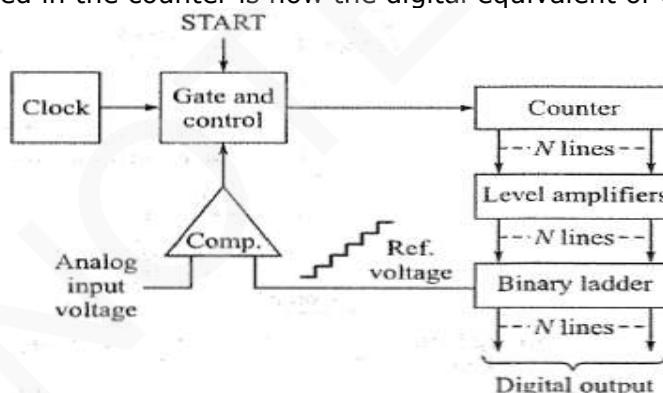

Figure 12.23 Counter type ADC
- 1) First, the counter is reset to all 0s (Figure 12.23).